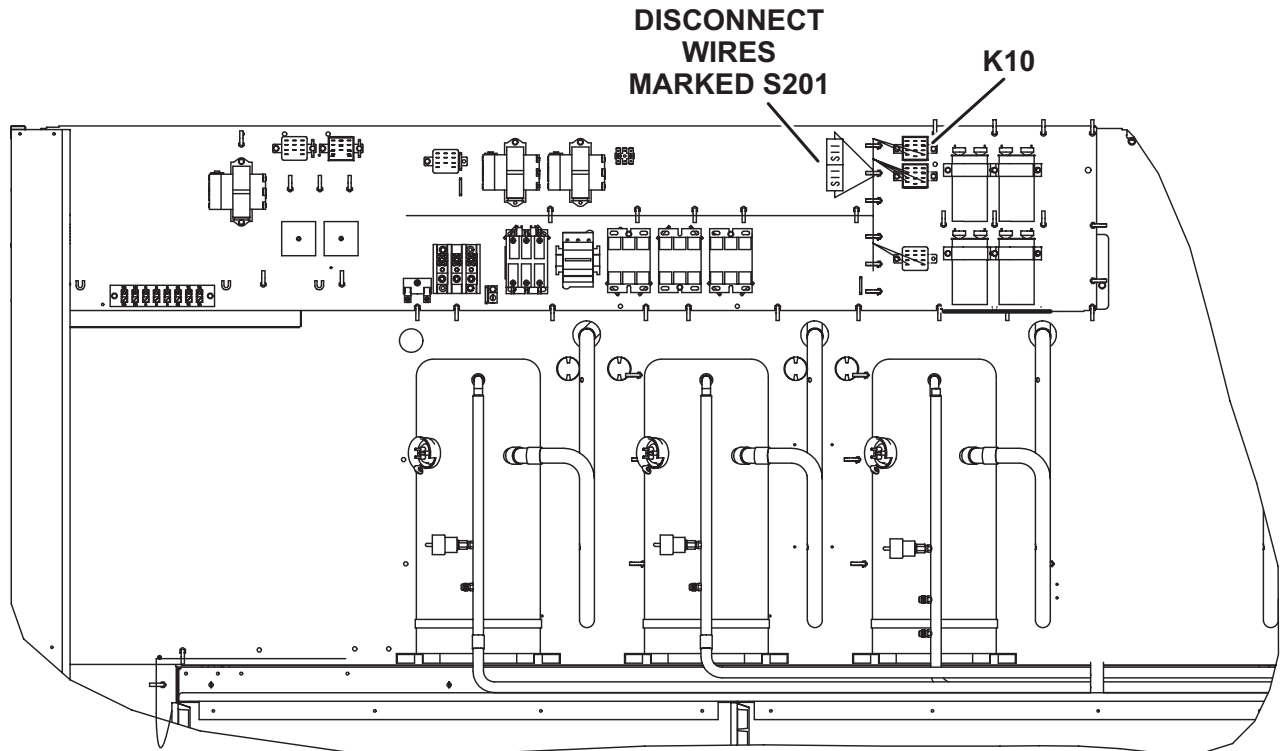

FIGURE 3
- 2 - Disconnect male and female terminals from wires marked "S201" near K10 relay. See figure 3.